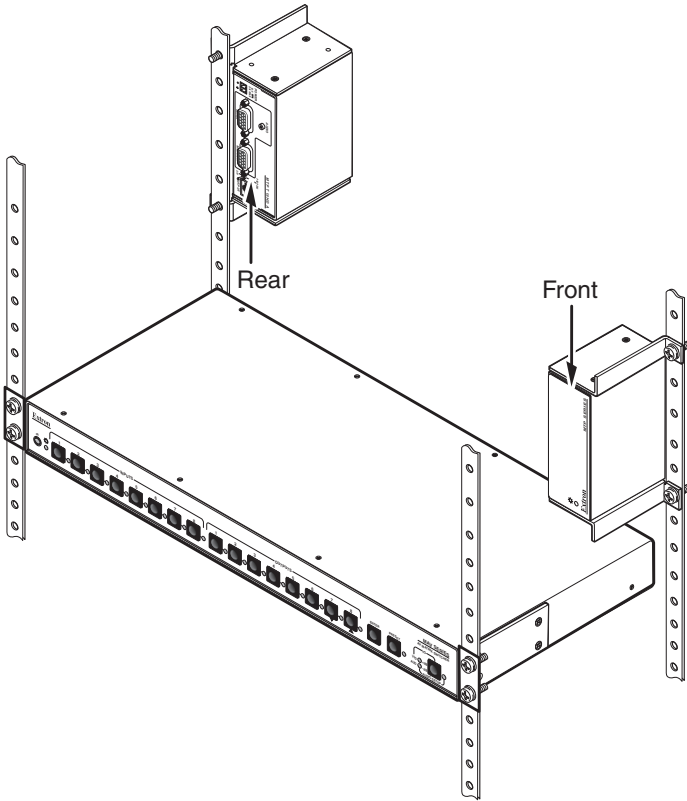

Figure 4 — Typical back of the rack installations
5. Mount the unit to the rack using the two included rack screws (see figure 4). The MTP can be vertically mounted facing in either direction.